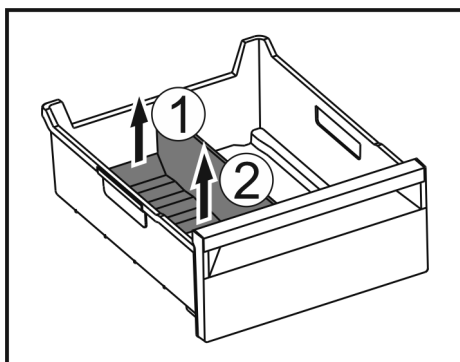

Fig. 104
- Lift the rear part of the ice compartment divider. Fig. 104 (1)
- Remove the ice compartment divider upwards. Fig. 104 (2)